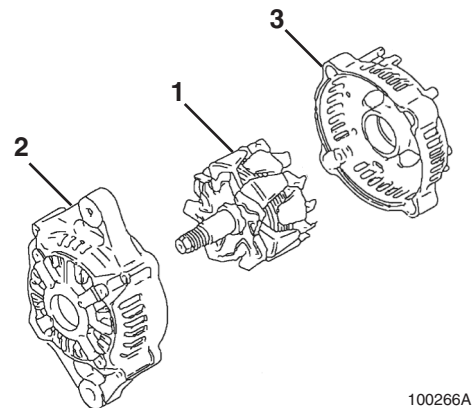
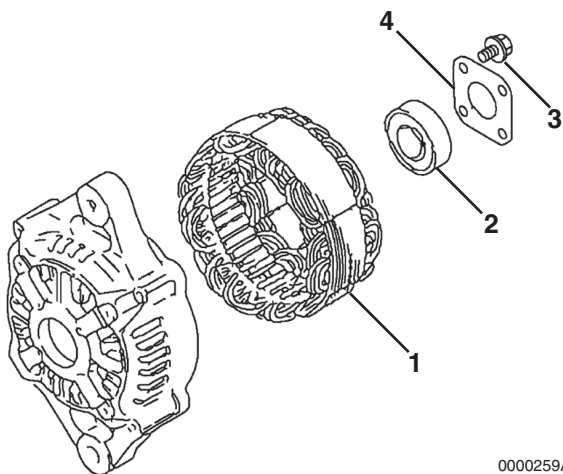

Figure 11-9
Figure 11-10
- Using a press, remove the rotor assembly (**Figure 11-9, (1)**) from the front frame housing (**Figure 11-9, (2)**) and rear frame housing (**Figure 11-10, (1)**).
- Remove the stator assembly (Figure 11-10, (1)) from the front frame housing.
- If it is necessary to replace the bearing (Figure 11-10, (2)) in the front frame housing, remove the four bolts (Figure 11-10, (3)) securing the plate (Figure 11-10, (4)) to the front frame housing. Remove the plate. Use a puller to remove the bearing. Discard the bearing.